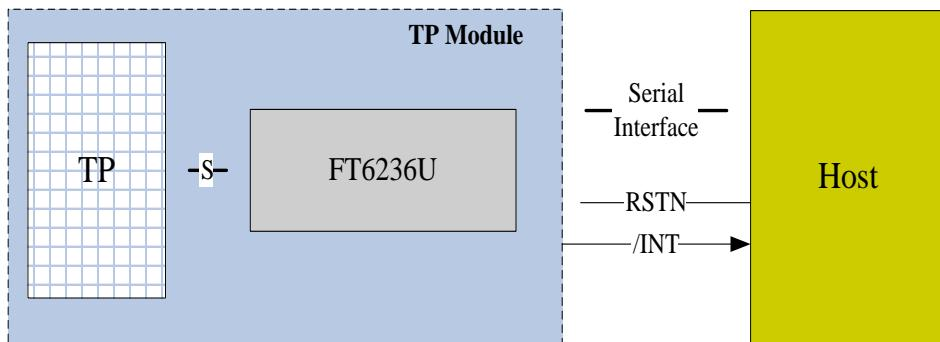

Figure 2-3 Host Interface Diagram
**Host Interface** Figure 2-3 shows the interface between a host processor and FT6236U. This interface consists of the following three sets of signals: